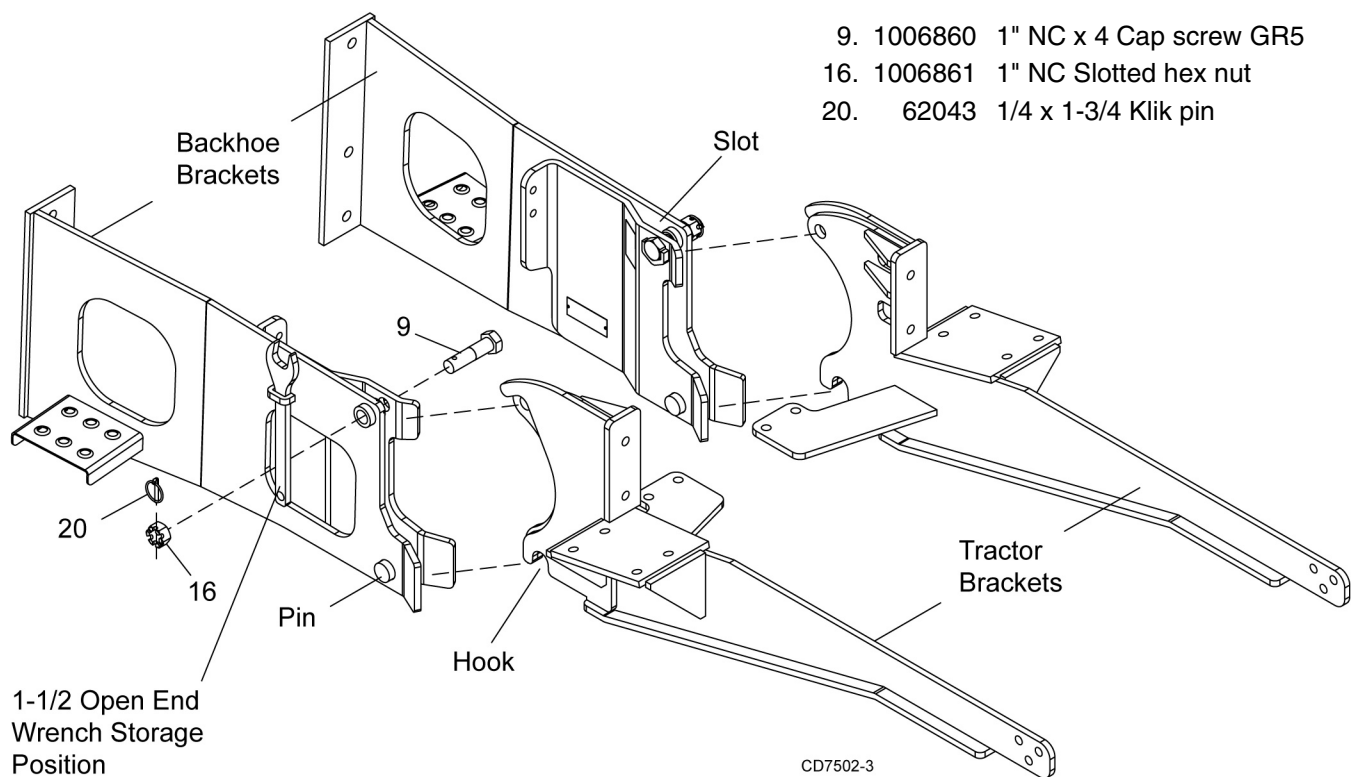

Figure 16. Backhoe to Tractor Installation
Refer to Figure 16.
10. Install cap screws (9) and slotted hex nuts (16). Tighten with 1-1/2 inch open end wrench provided with kit. Return wrench to storage position (see Figure 16).
11. Secure hex nut into position with klik pin (20).
6. Use 1-1/2 inch open end wrench supplied with the mounting kit to remove hex nuts. Return wrench to storage position (see Figure 16).